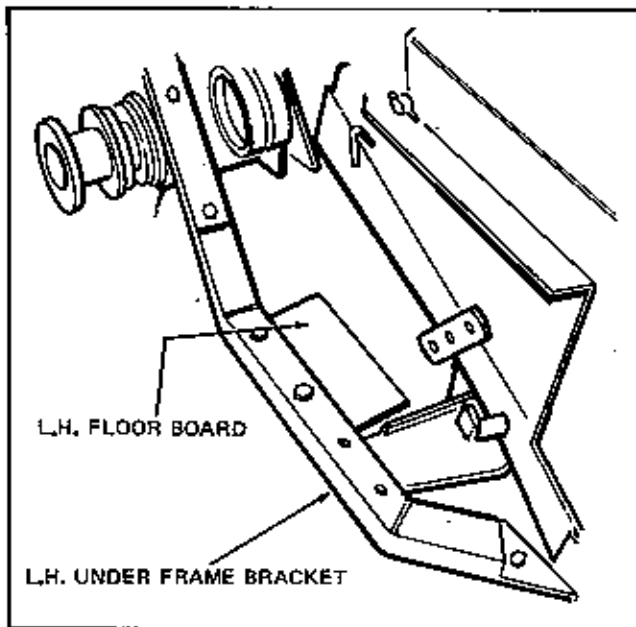

Figure 5.
6. Install left and right floor boards using the 1/2 x 2-3/4" capscrews from shipping and the spacers provided. See Figure 5.